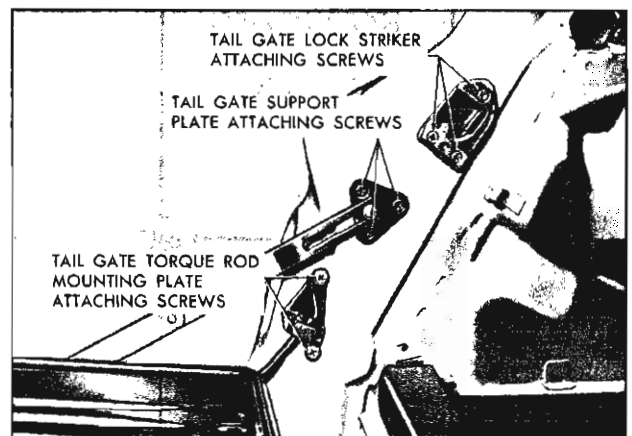

Fig. 86—Tail Gate Support and Torque Rod Attachment
6. Raise tail gate to approximately a vertical position to relieve torque from torque rod. Remove torque rod mounting plate attaching screws (fig. 86) from left body pillar and remove mounting plate.
2. Raise tail gate to almost a vertical position to relieve torque from torque rod. Remove torque rod mounting plate attaching screws from left body pillar and remove mounting plate (fig. 86).